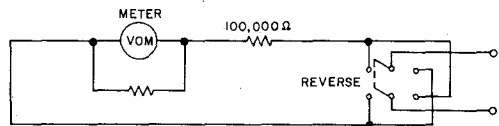

Fig. 4—Voltmeter Circuit—ON-OFF Switch at OFF Position
2.06 Fig. 4 is a simplified schematic diagram of the voltmeter circuit for which the ON-OFF switch must be in the OFF position.